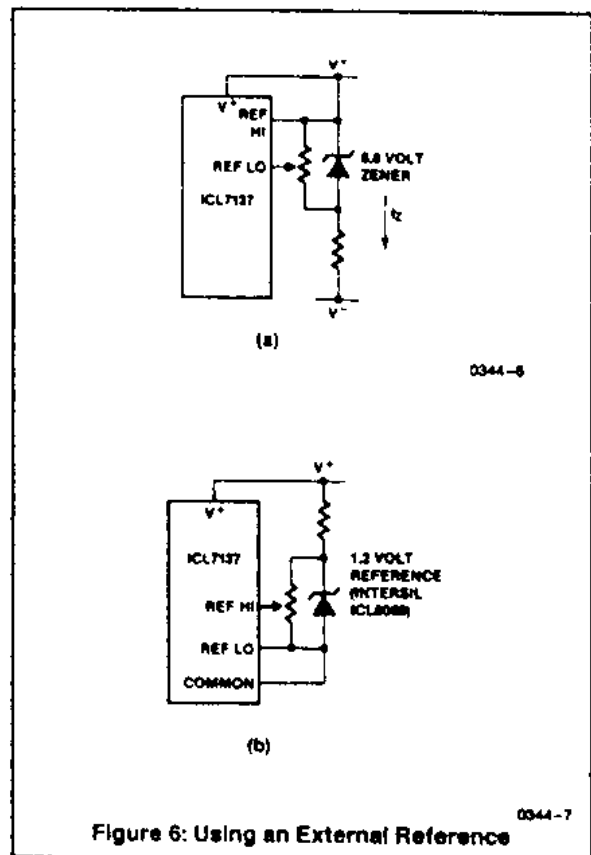

Figure 6: Using an External Reference
The limitations of the on-chip reference should also be recognized, however. The reference temperature coefficient (TC) can cause some degradation in performance. Temperature changes of  $2^{\circ}C$  to  $8^{\circ}C$ , typical for instruments, can give a scale factor error of a count or more. Also, the COMMON voltage will have a poor voltage coefficient when the total supply voltage is less than that which will cause the zener to regulate ( $< 7V$ ). These problems are eliminated if an external reference is used, as shown in Figure 6.